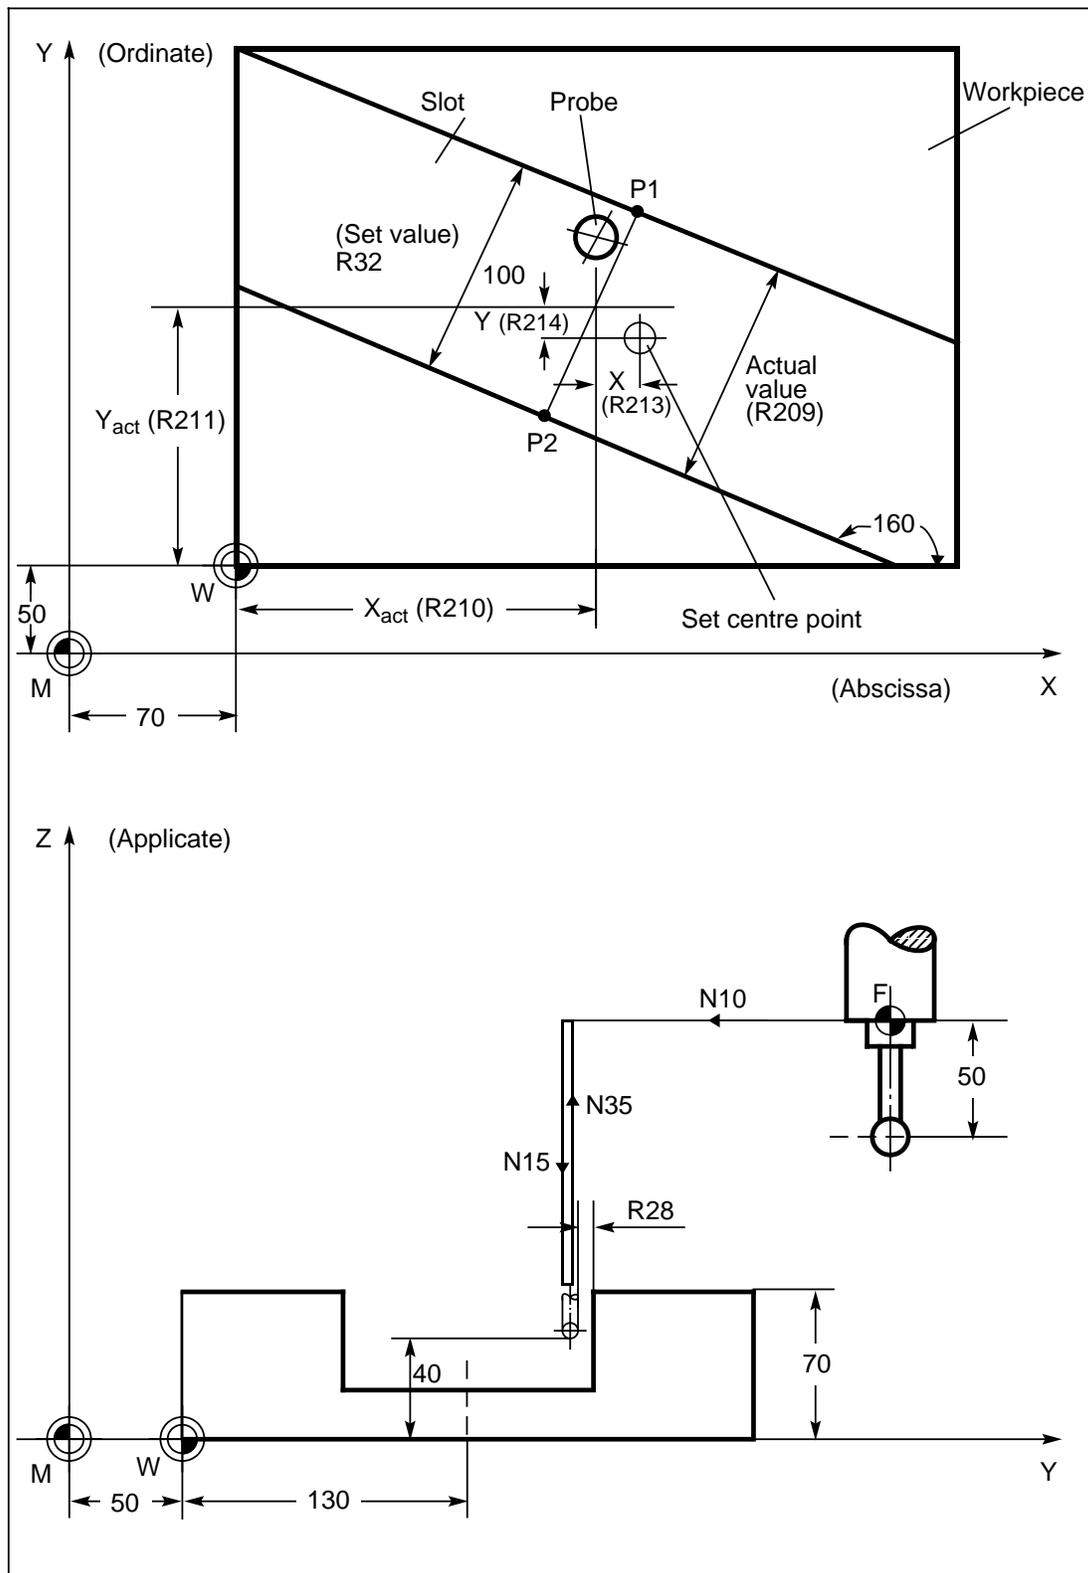

Fig. 5.22 ZO determination in internal slot
**Example: ZO determination in hole with measuring cycle L979** (Data as in Fig. 5.22)